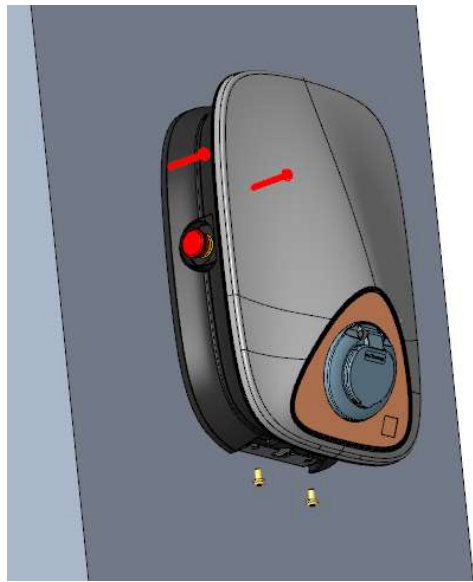

Figure A-17 Hanging charger and bottom fastening
10. Hang the charger through the two recessed buckles in the rear case and the two screws on the wall, screw in the two M6*12 Torx screws below to tighten the charging station and the wall hanging fitting, as shown in Figure A-17: